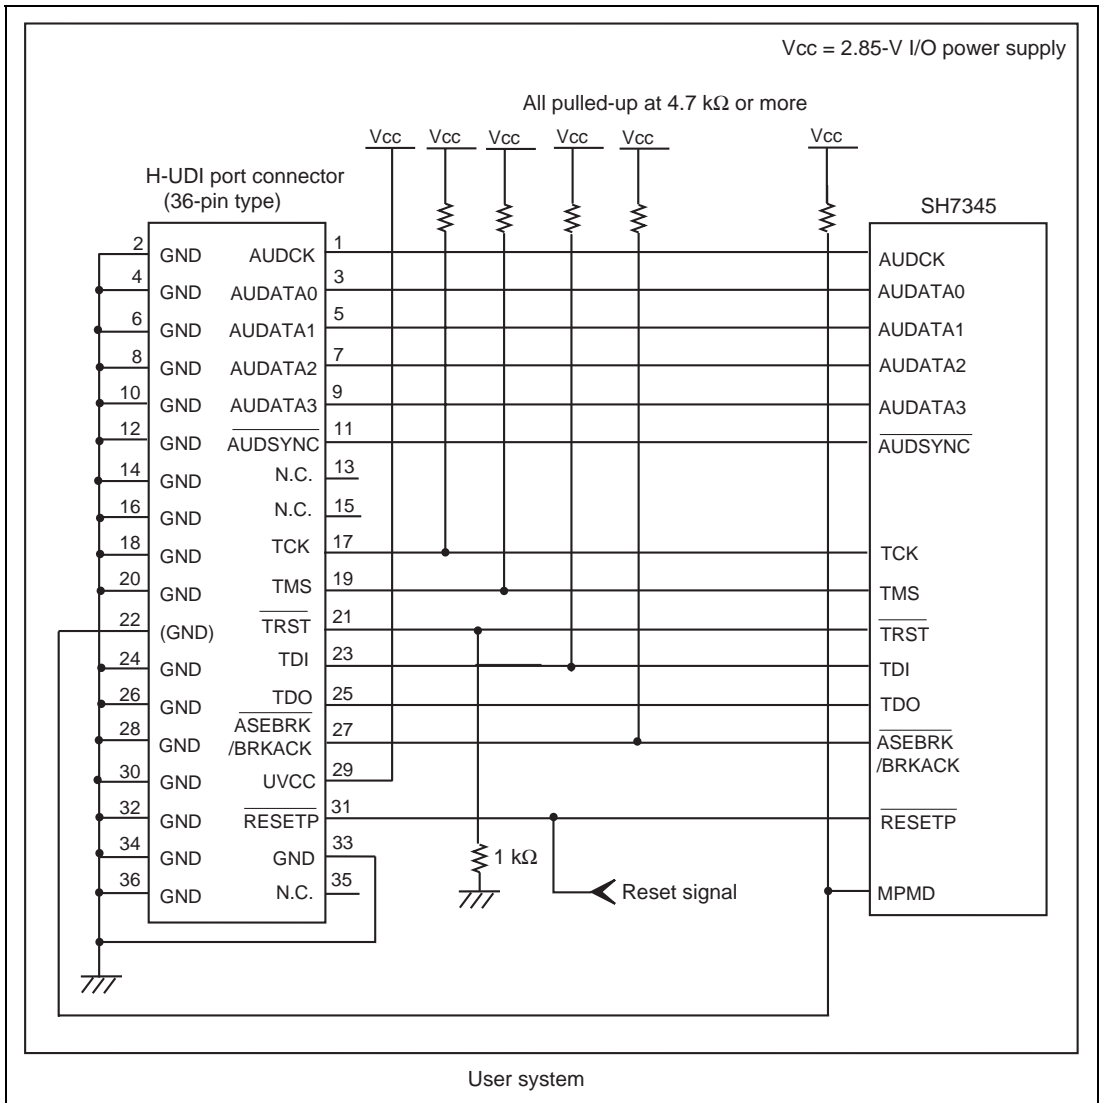

Figure 1.3 Recommended Circuit for Connection between the H-UDI Port Connector and MPU when the Emulator is in Use (36-Pin Type)
Figure 1.3 shows a recommended circuit for connection between the H-UDI and AUD port connectors (36 pins) and the MPU when the emulator is in use.
- (1) When the emulator is used: $MPMD = 0$
- (2) When the emulator is not used: $MPMD = 1$Figure 1.3 shows an examples of circuits that allow the MPMD pin to be GND (0) whenever the emulator is connected by using the user system interface cable.
7. The resistance values shown in figure 1.3 are reference.
When the circuit is connected as shown in figure 1.3, the switches of the emulator are set as SW2 = 1 and SW3 = 1. For details, refer to section 3.8, Setting the DIP Switches, in the SuperH™ Family E10A-USB Emulator User's Manual.
- (2) When the emulator is not used: $MPMD = 1$Figures 1.3 shows an examples of circuits that allow the MPMD pin to be GND (0) whenever the emulator is connected by using the user system interface cable.